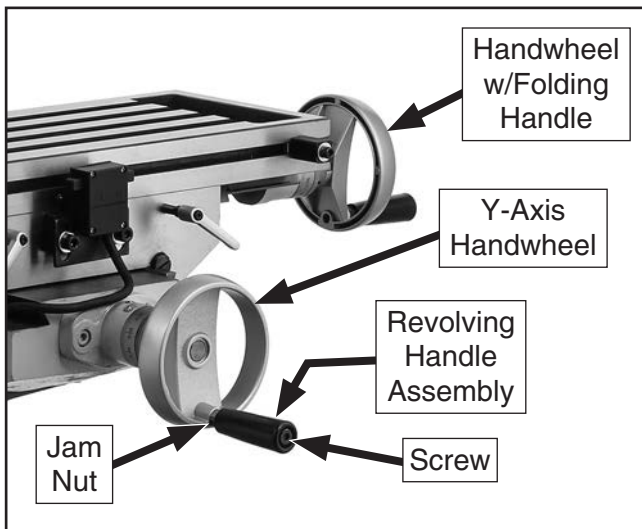
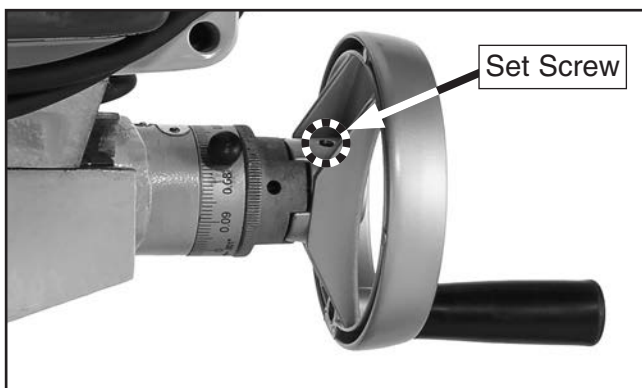

Figure 28. Table handwheels installed.
Figure 29. Set screw on base of handwheel (Y-axis shown).
19. Mount handwheel with pre-installed folding handle to right end of X-axis leadscrew (see **Figure 28**), and tighten set screw on base of handwheel to secure it (see **Figure 29**).
20. Mount a remaining handwheel to Y-axis leadscrew (see **Figure 28**), and tighten set screw on base of handwheel (see **Figure 29**).
21. Thread screw of revolving handle assembly into handwheel from **Step 19**, then tighten jam nut against handwheel to secure handle (see **Figure 28**).